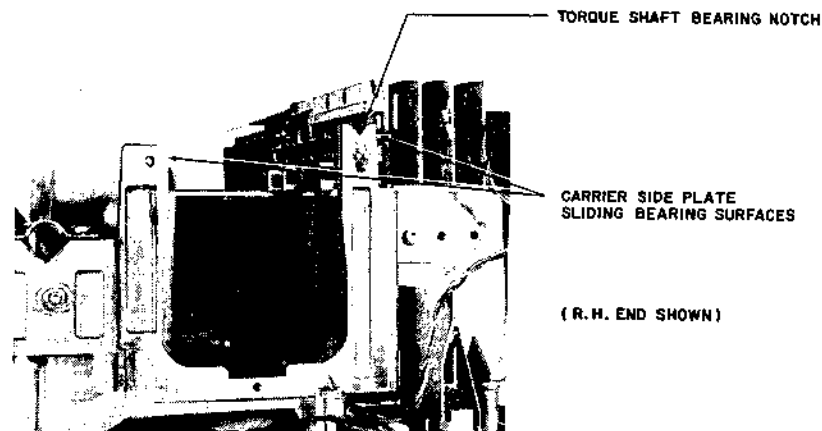

Figure 5-10 CARRIER SYSTEMS REPLACEMENT
1. Clean all Carrier Subassembly bearing surfaces on the printer's main frame of old grease, etc. Reapply a light coating of multi-purpose grease to these points on both ends of the printer's main frame. Refer to Figure 5-10.